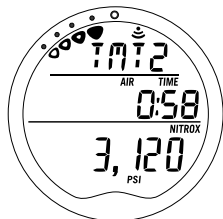

Fig. 110 - Switch from GAS 1 to GAS 2 was made
- When the switch is made, the Main Display will represent GAS 2. Alternate Display #1 will then display the alpha graphic TMT2 and the Pressure of Tank 2 (Fig. 110). Air Time Remaining is then calculated based on Tank 2.